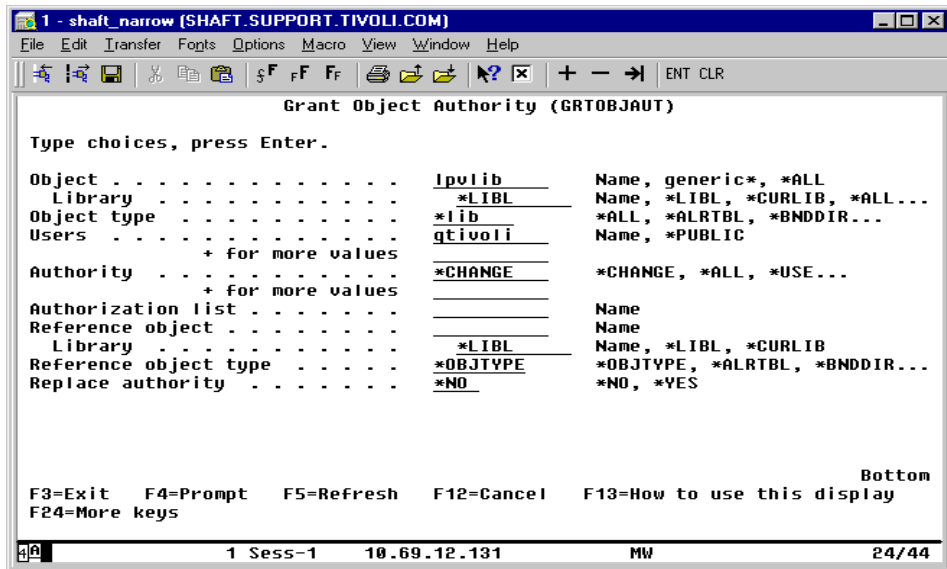

Figure 34. Grant Object Authority
1. Since the QLCFD job will need to access this file, we use the Grant Object Authority commands, as shown in Figure 34 on page 108, to grant QTIVOLI authority to the LPVLIB library in which we will specify to write the configuration file (last.cfg).